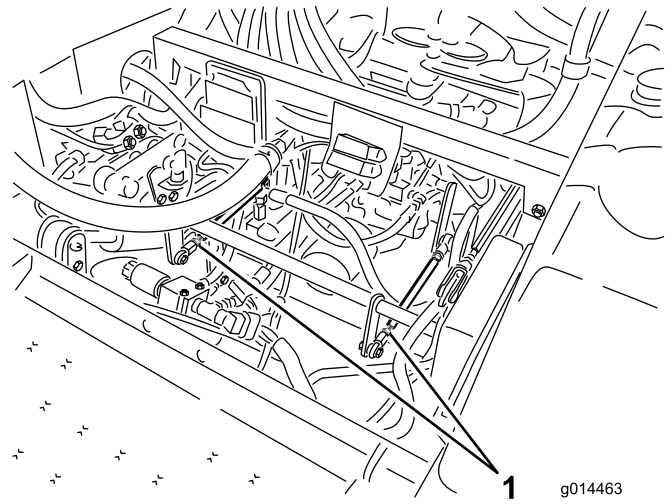

Figure 59
- If the left rear tire is rotating, loosen the jam nuts on the left side transmission control rod (Figure 59).